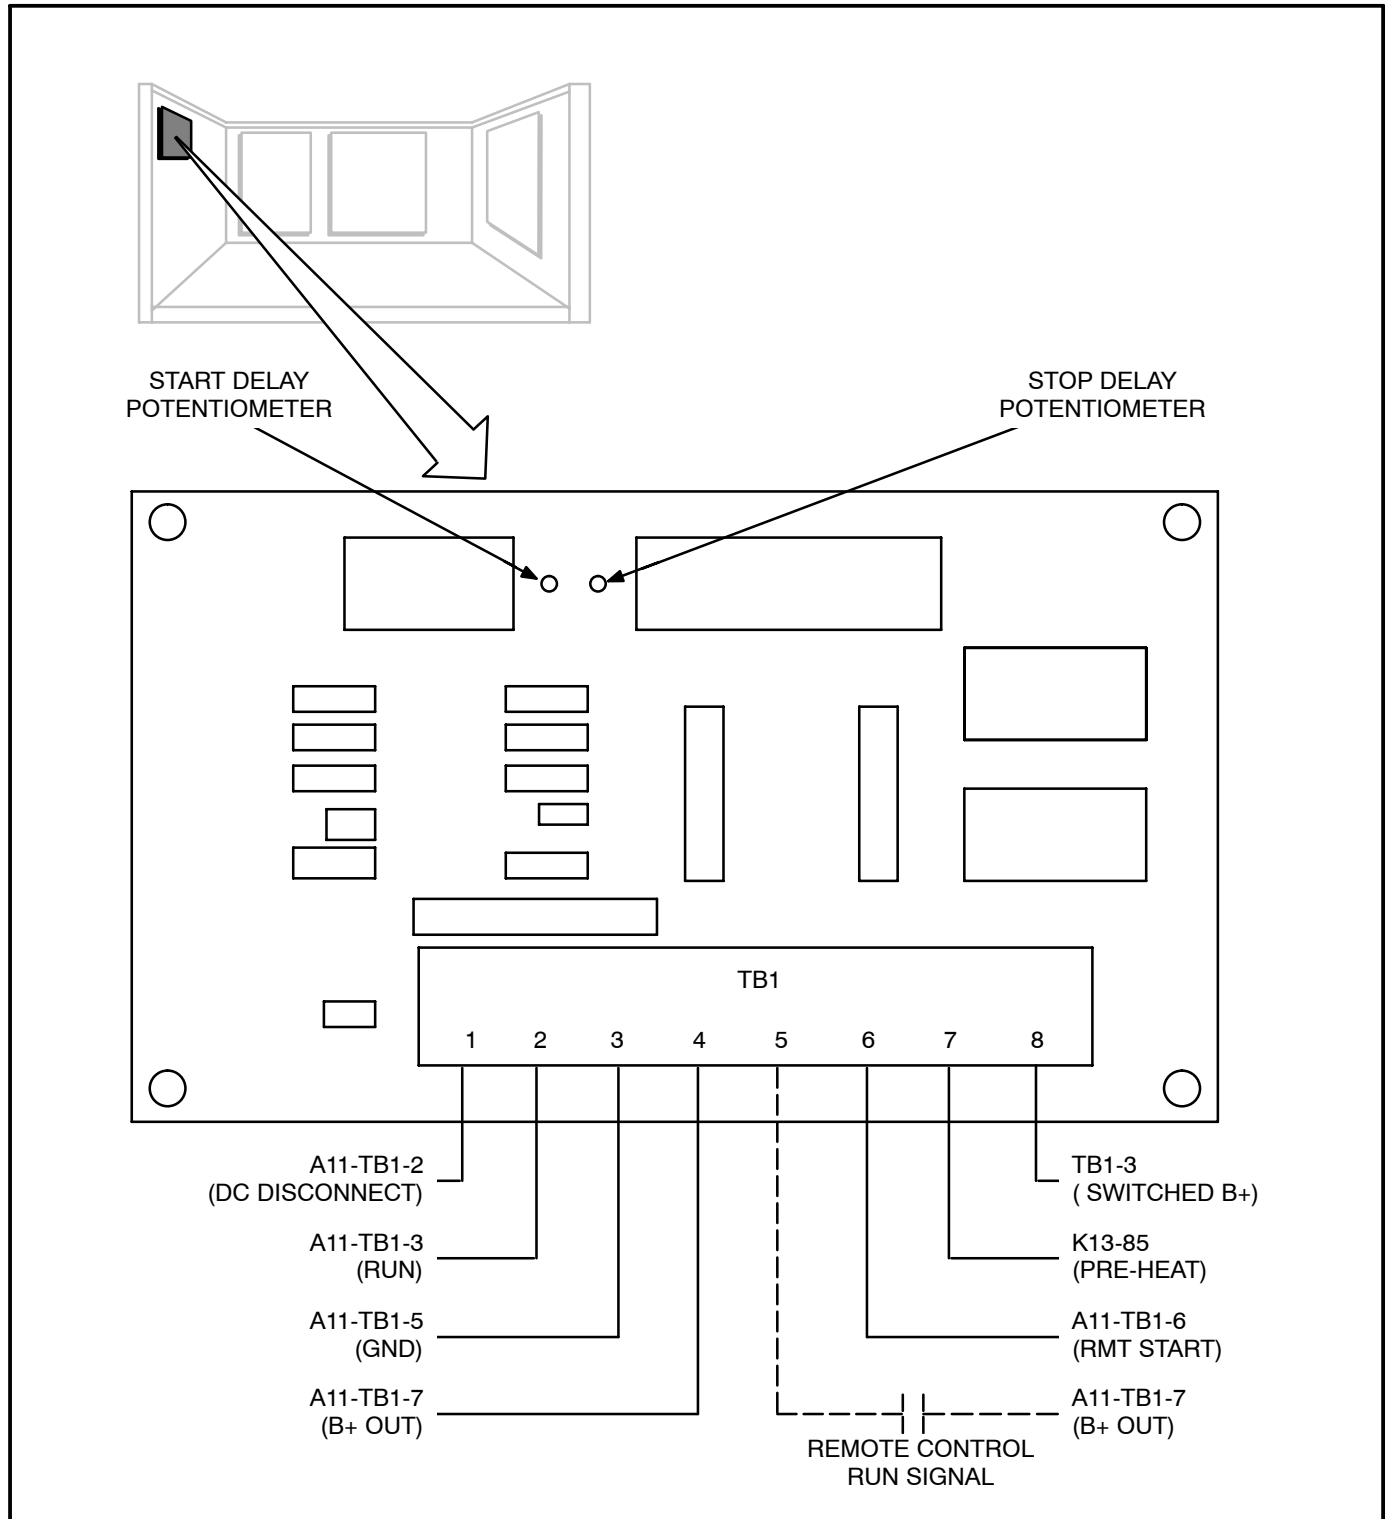

FIGURE 3-4. PREHEAT/TIME-DELAY MODULE
6. Start delay module A15 is not functioning properly.	Check for misconnections (see Figure 3-4) and loose connections and replace start/stop delay module A15 if there is 12 VDC at terminals A15-TB1-4 and A15-TB1-5 but not at A15-TB1-6 after a time delay of up to 15 seconds.